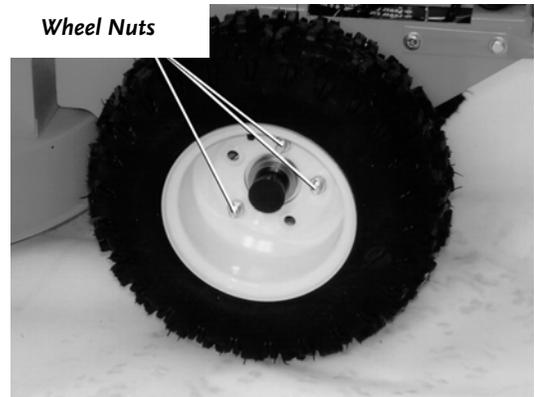

Figure 31
3. Remove the three (3) Nuts and slide the Wheel off (**Figure 31**).